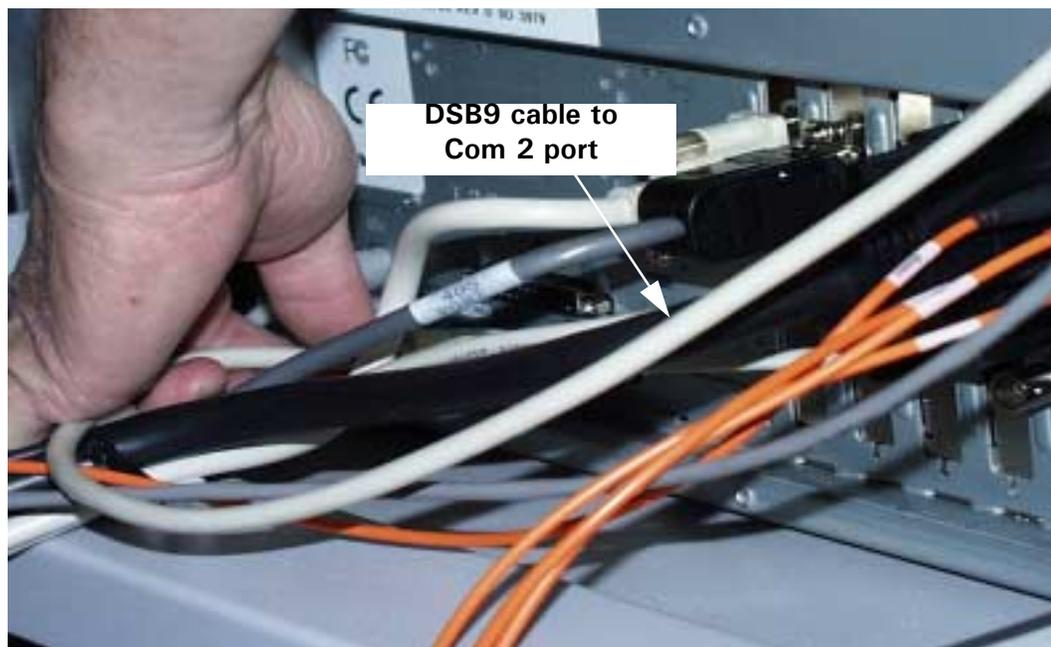

Figure 14
3. Connect the supplied DB9 serial cable (part of Calibration Kit) to Com 2 at the rear of the computer. See Figure 14.